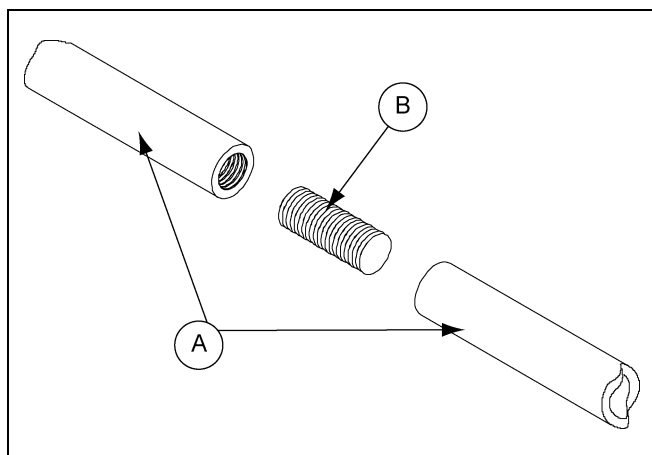

Figure 3C
1. Screw the two (2) 1/2" rod sections (A) together with an internal threaded coupler (B), as shown in Figure 3C.